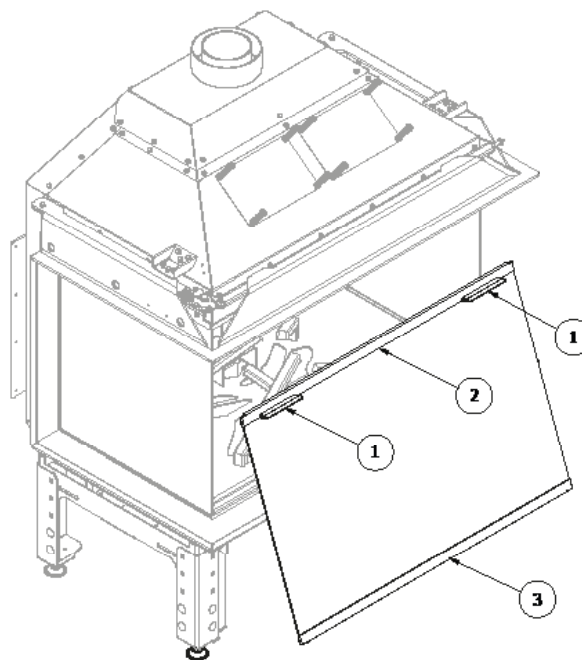

Fig. 14. Removing the front glazing: 1 - handle; 2 - upper strip; 3 - bottom strip
- Tilt the glass as shown in fig. 14 and carefully take it off.